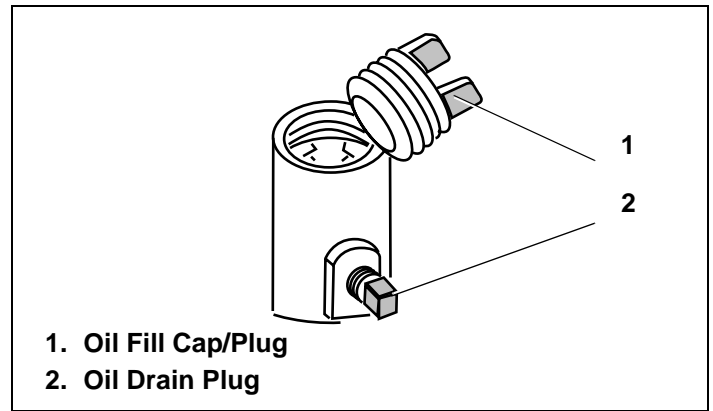

Figure 48. Oil Fill Cap/Plug and Oil Drain Plug
8. Install oil drain plug and tighten securely. See Figure 48.